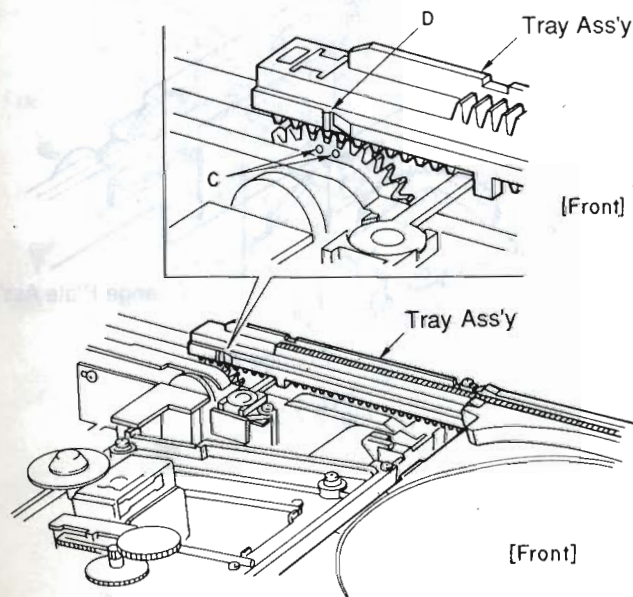

Fig. 2.5.3
- (3) Place the Tray Ass'y so that the protrusion "D" of the Tray Ass'y is positioned between the marks (holes) "C" on the S-F-Gear. Refer to Fig. 2.5.3.
- (4) Reverse the removal procedure in item 2.5.1.